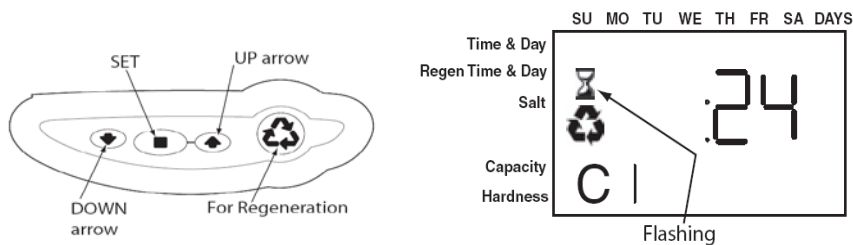

Figure 4
1. Push the FOR REGENERATION button (**Figure 4**) on the controller down for 5 seconds. This will initiate a manual regeneration. You will notice a flashing hour glass during regeneration. The controller will indicate that the motor is turning the camshaft to cycle C1 (BACKWASH). The controller will indicate the total regeneration time remaining. Filling tank in this position allows air to escape from drain. Open the bypass inlet valve $\frac{1}{4}$ turn and allow water to flow into the mineral tank at a slow rate.